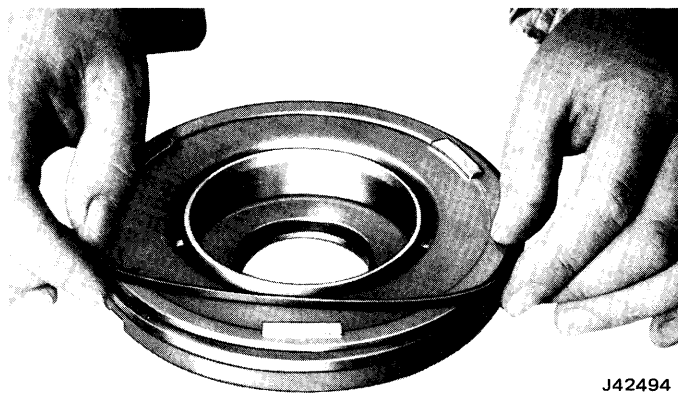

Fig. 7-70 Removing Forward Clutch Piston Outer Seal
(6) Compress spring retainer using Clutch Spring Compressor J-25148 and arbor press, and remove snap ring which fastens spring retainer to clutch piston.
(7) Remove snap ring, spring retainer, and 16 clutch release springs.
(8) Remove forward clutch piston.
(9) Remove clutch inner and outer piston seals (fig. 7-70).
(1) Install inner and outer oil seals on clutch piston with seal lips facing away from spring pockets (fig. 7-70).